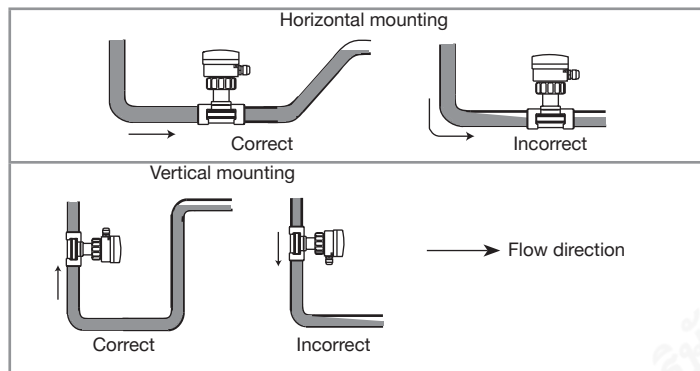

Fig. 9: Filling of the pipe
- Ensure that the pipe is always filled in the section around the device (see Fig. 9).
- When mounting vertically ensure that the flow direction is in an upward direction (see Fig. 9).